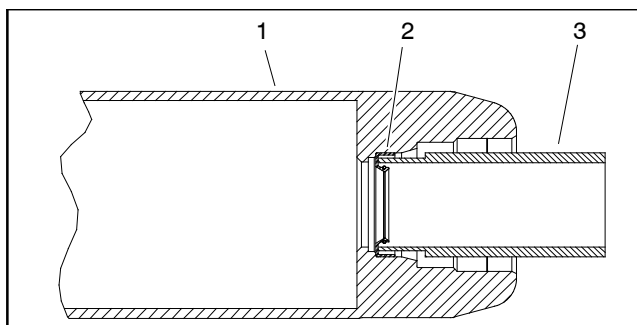

Figure 13
1. Install inner seals into roller tube making sure that seal lip (and garter spring) faces end of tube. Use inner seal tool (see Special Tools) and soft face hammer to fully seat seals against roller shoulder (Fig. 13). Apply a small amount of grease around the lip of both inner seals after installation.